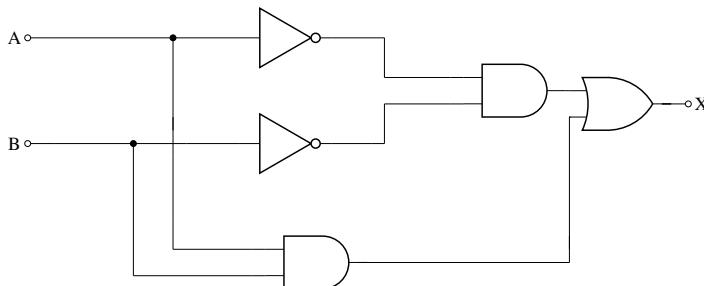

Fig. 3.16
30. A and B are logical inputs and X is the logical output shown in Fig. 3.16. The output X is related to A and B by